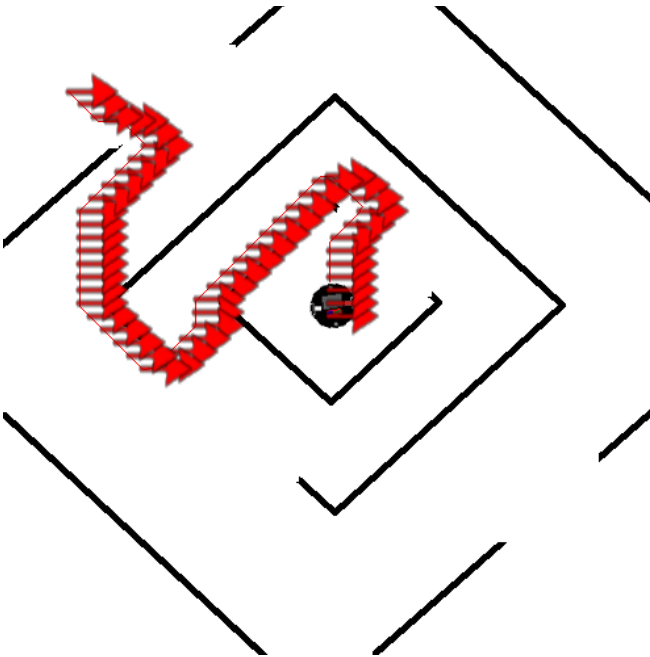
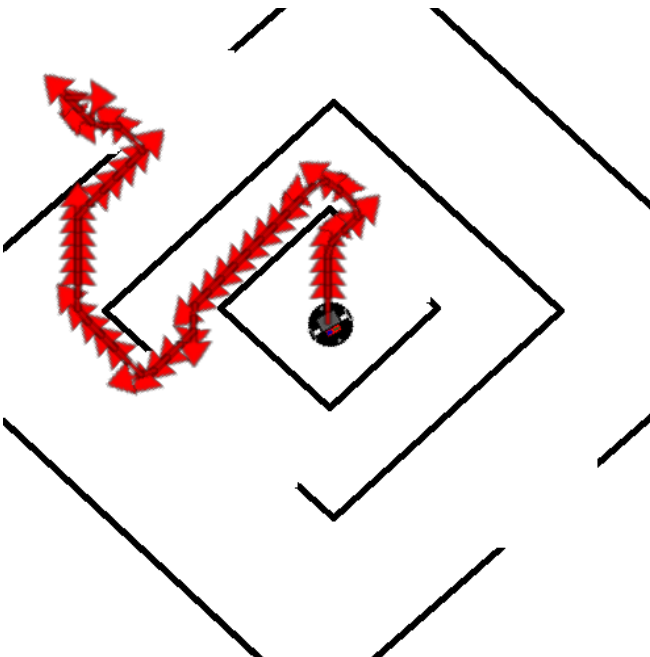

Figure 6b. Discretized path is every 10 points in the A* path. Turns 510 points from A* path to 51 goal points for the robot to go to.
Figure 7 Angular trajectories of the discretized path is corrected. Equation (1) implemented.
The angular trajectory needs to be corrected so the robot can move straight to the next pose. If we recall from kinematic applications for movement of the robot, angular trajectory can be controlled with geometric equations. Used here in equation (1). The correction of angular trajectory can be seen between figure 6b and figure 7.